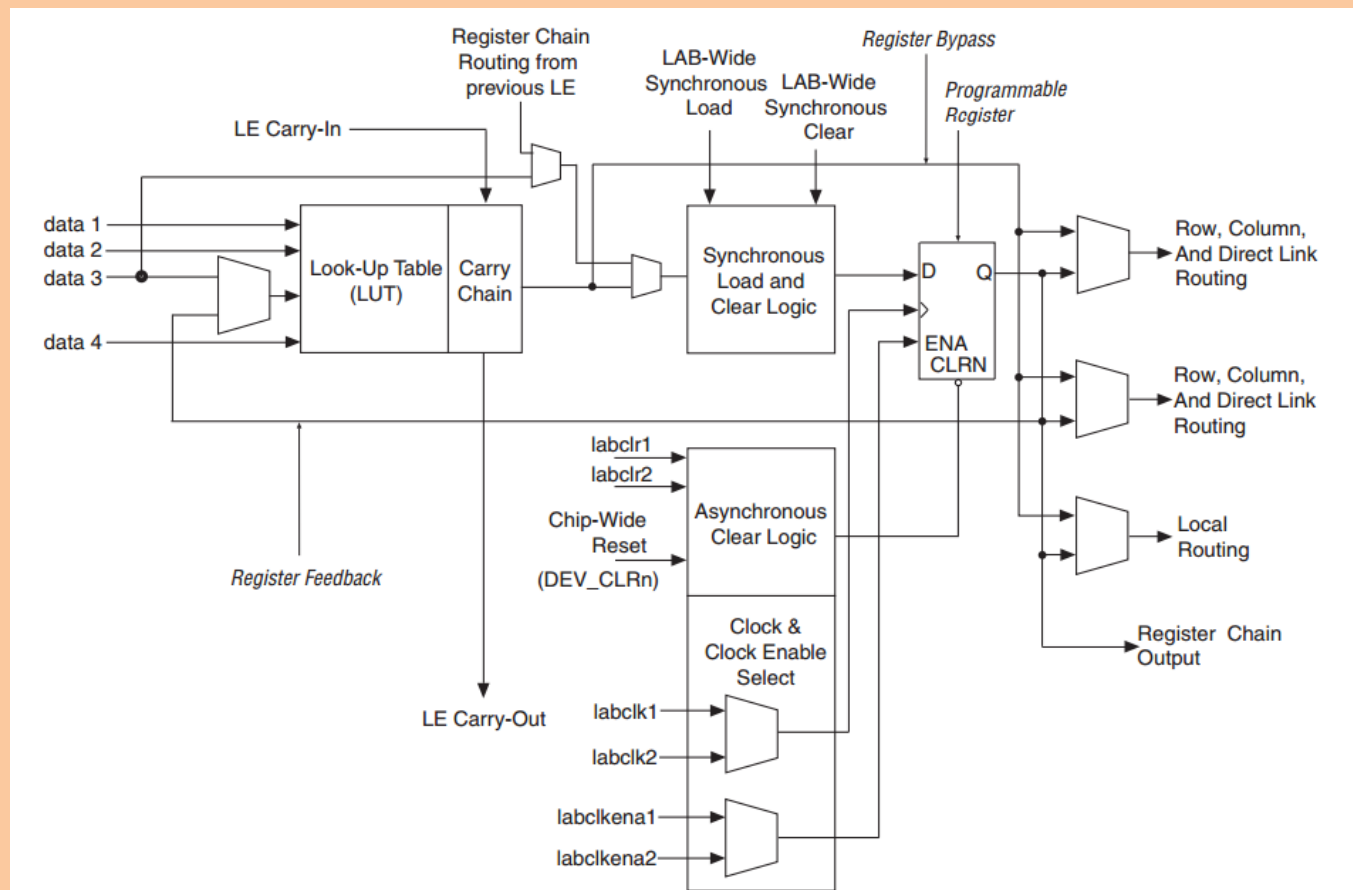

Figure 1: Altera Cyclone IV Logic Element (LE) [1]
The LUTs in the Cyclone FPGA are 4-LUTs: they have four inputs. Any logic function with 4 inputs and 1 output can be implemented using a single 4-LUT. The fundamental structure of the Cyclone FPGA is known as a logic element (LE), shown below in Figure 1, and each LE contains 4-input LUT and a flip-flop (a storage element we'll discuss later).